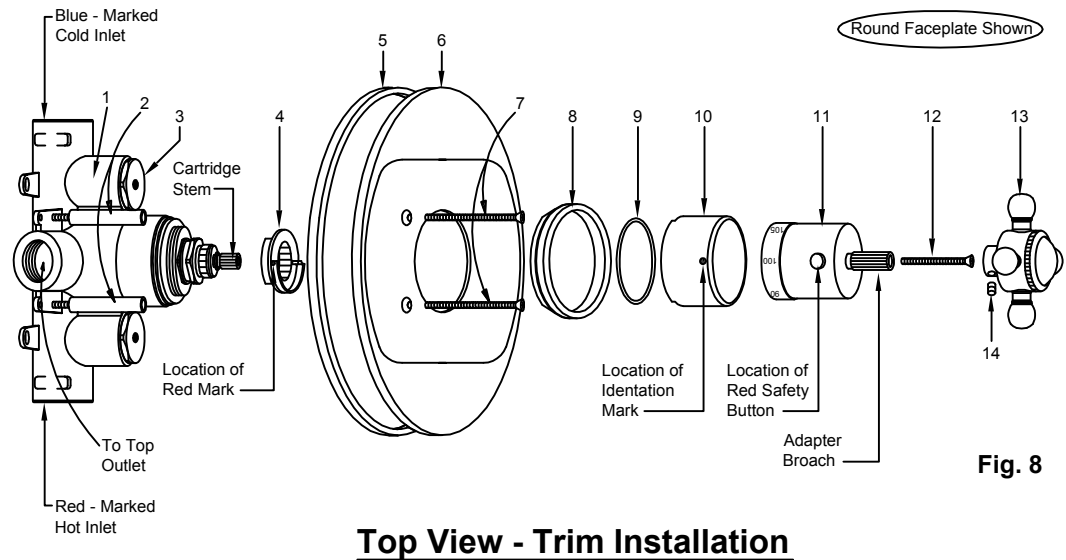

Fig. 8
- 1 Remove the decorative handle by loosening the set screws (See Fig. 8).
- 4 Remove all trim (See Fig. 8).
- 12 Install all trim (See Fig. 8).